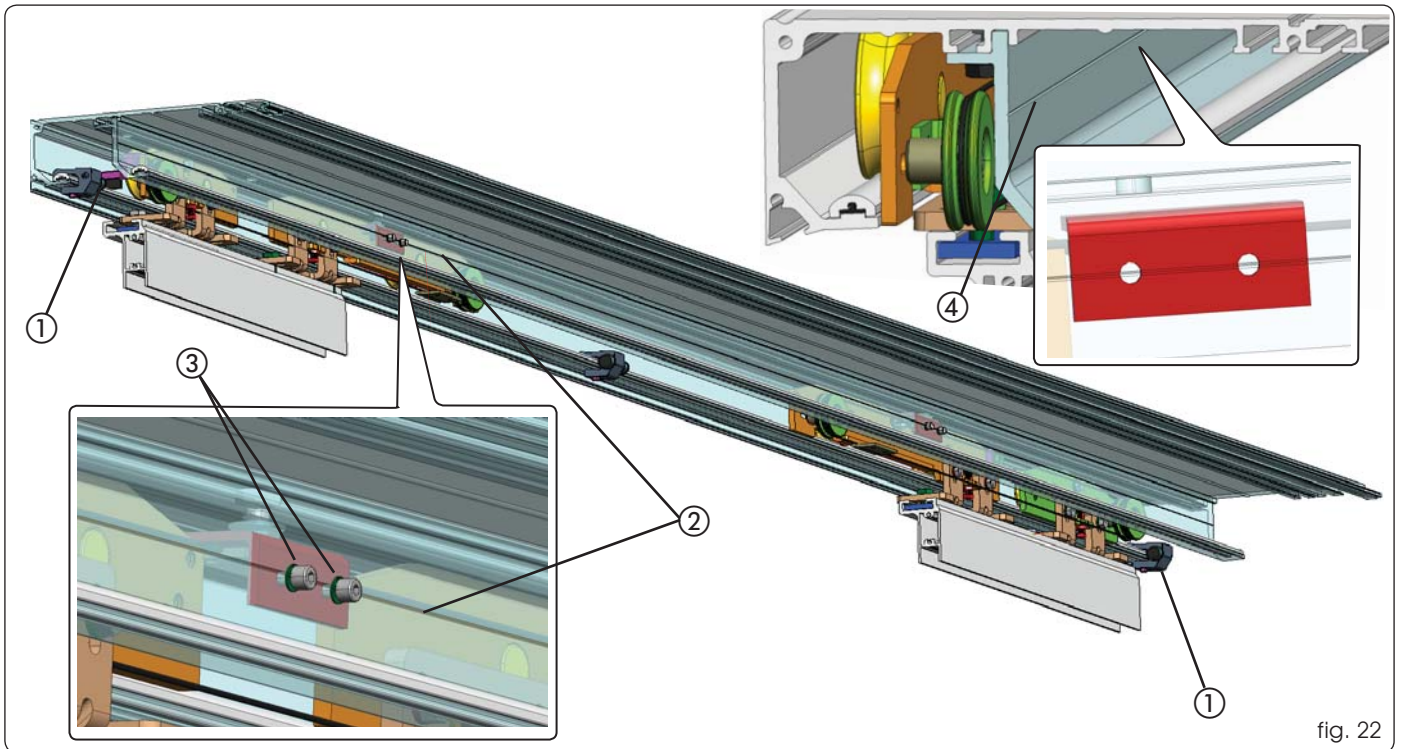

fig. 22
Use the line on the telescopic profile fig.22 Ref. ② band corresponding template to keep the 2 plate holes aligned.
Open the external leaves completely until they come in contact with the external mechanical stops fig.22 Ref. ① .
Use the reference line on the telescopic profile fig.22 Ref. ② Then secure the plates using the provided screws fig.22 Ref. ③ .